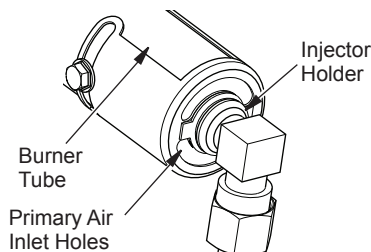

Figure 37 - Injector Holder On Outlet Burner Tube
2. Inspect burner, pilot and primary air inlet holes on injector holder for dust and dirt (see Figure 37).